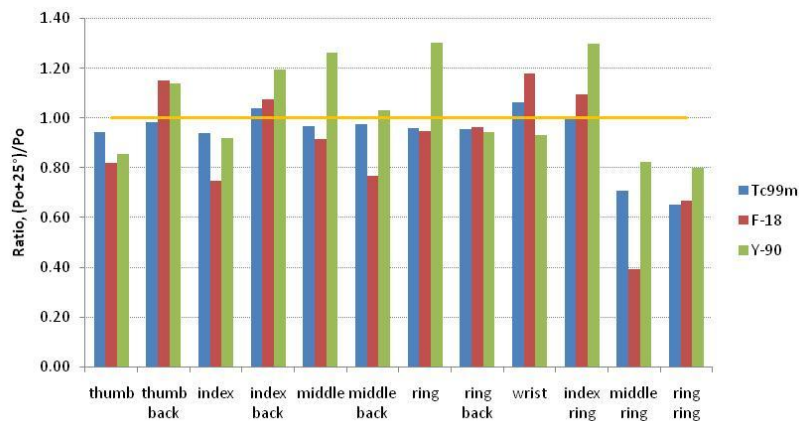

Figure 5: Example of ratios of different position with initial position. Scenario I2N.
- Calculate the ratios of different position with initial position ( $P_0$ ) and do one histogram. See example in Figure 5